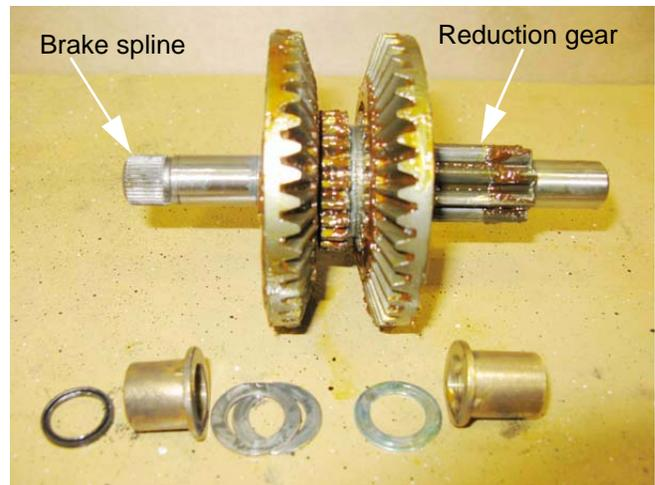

Figure 6.104
- 19b. Slide the reverse gear, shift collar, and forward gear onto the bevel gear shaft. See Figure 6.104.